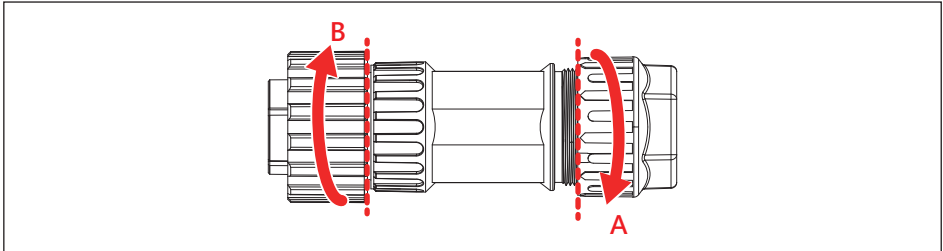

Figure 3-9 : Assemble the AC plug
1. The packing has a AC Plug (item 4, **Table 2-1**) please rotate it to release part A & B shown as **Figure 3-9**.